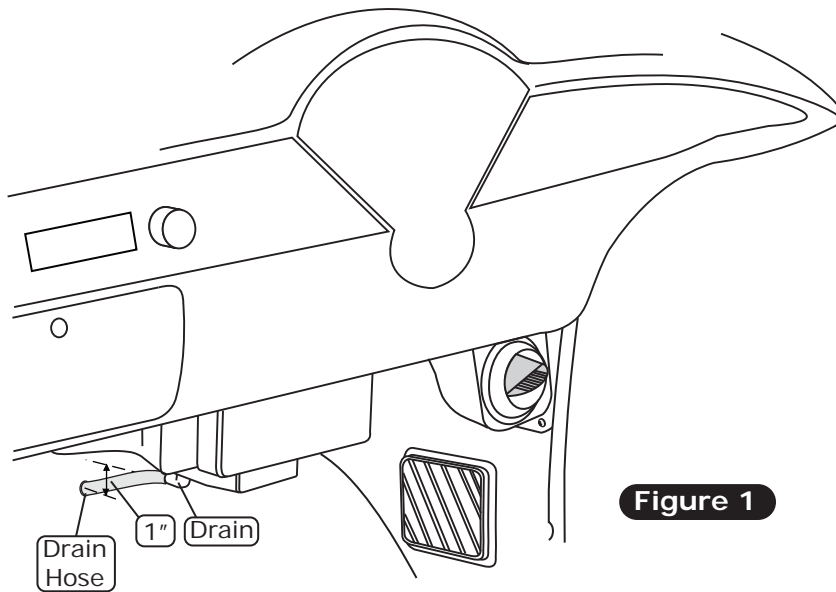

Figure 1
2. In line with the drain, lightly scribe a mark on the firewall. Measure down 1" and drill a 5/8" hole through the firewall (See Figure 1, below).
1. Install the glove box bottom and glove box door. Secure to the dash with (3) OEM screws (See Figure 1, below).
2. With the glove box bottom and door in place, install the glove box top as shown in Figure 1, below. Using (3) #6 x 3/8" pan head screws, attach the glove box top to the glove box bottom as shown in Figure 1, below.
3. Secure the glove box top to the dash using (2) OEM screws (See Figure 1, below).